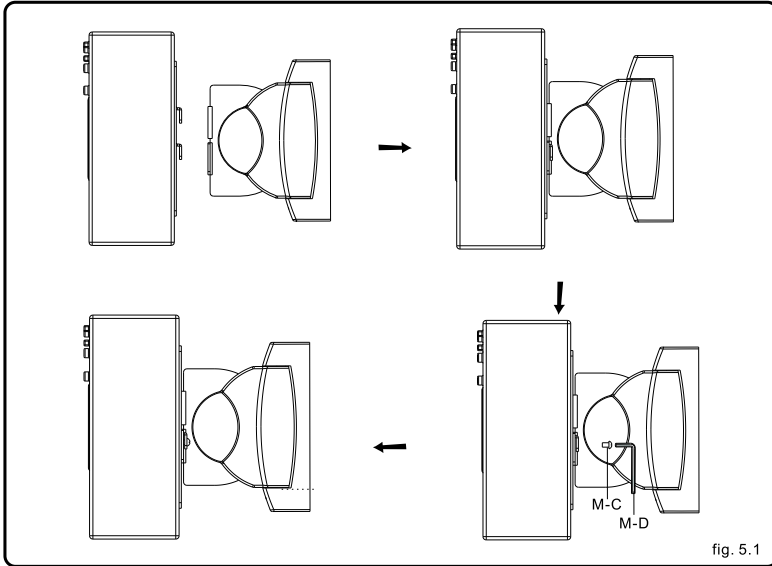

fig. 5.1
- Place the speaker bracket mounted speaker onto the speaker plate, as shown in fig 5.1.
- Tighten the safety screws through the mounting holes, do not over tighten! as shown in fig 5.1.